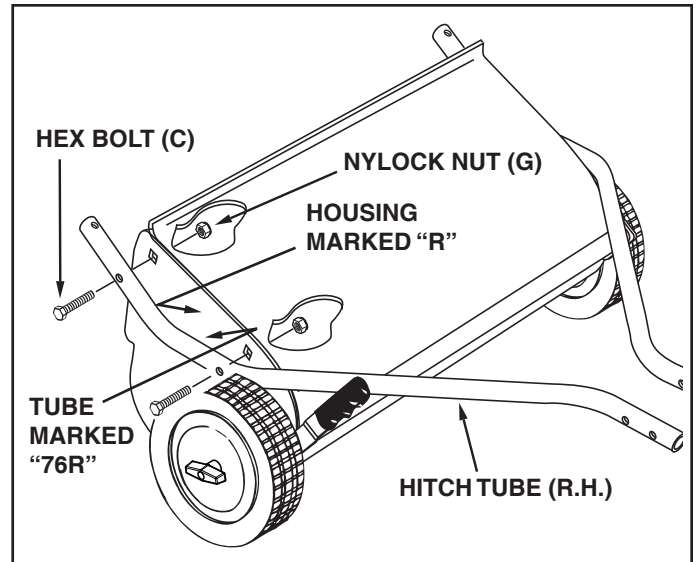

FIGURE 6
STEP 7: (SEE FIGURE 6)
- Hold the right hitch tube against the right side of the sweeper so that the "76R" on the tube faces **toward** the sweeper. Attach the hitch tube using two hex bolts (C) and nylock nuts (G). **Do not tighten yet.**